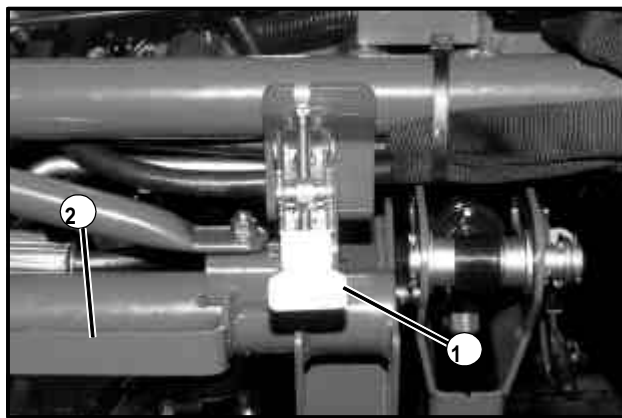

Figure 12
- Release the draw latch (See Fig. 12).
- Shut off the unit and swing the rear arm back under the unit and secure the arm with the draw latch (See Fig. 12).